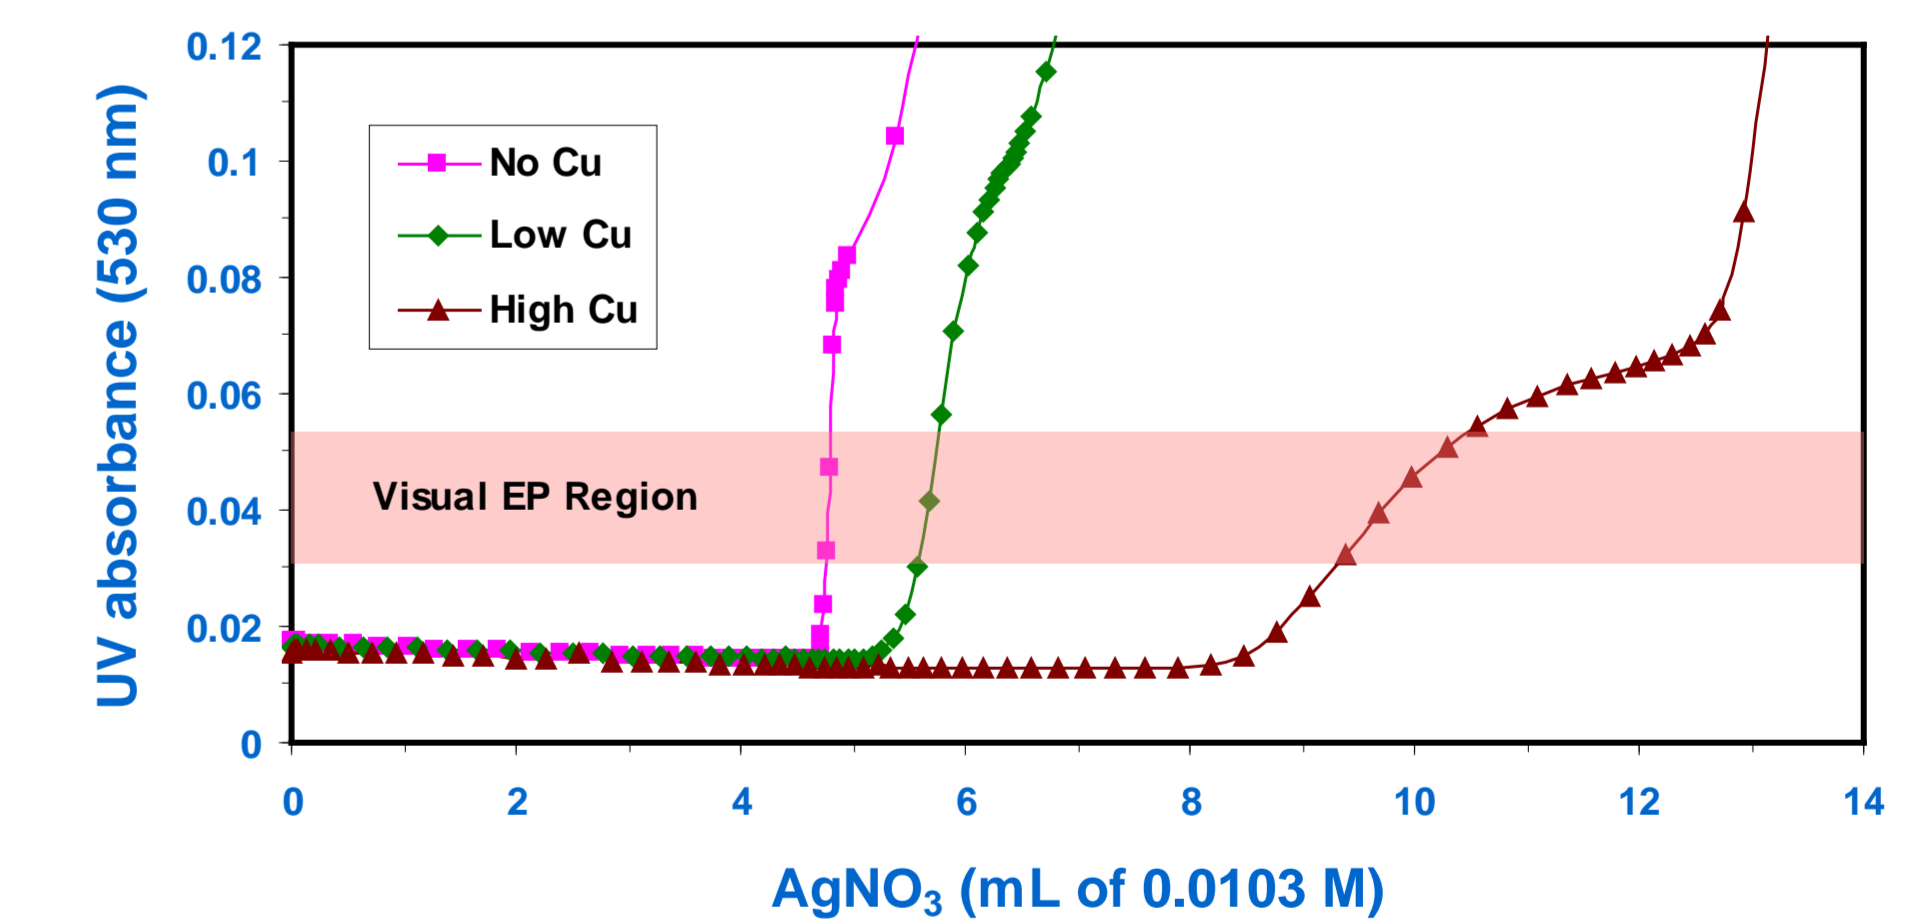

Figure 2: Rhodanine indicator absorbance of a silver nitrate titration of 20 ml samples for the same solutions as Figure 1.
- Rhodanine also measures a portion of the third CN^- complexed with Cu (Figure 2).